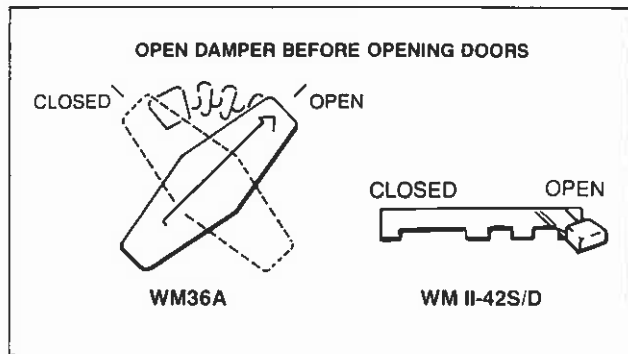

Fig. 12. WM series damper control.
**WM Damper.** The WM series fireplace flue damper is 'opened' and 'closed' by a knob located in the top outlet grille. (See Fig. 12.) The WM damper is adjustable and may be adjusted to a partially open position as long as glass doors are closed and smoke build-up does not occur in firebox. Most efficient operation is obtained in the least open position. **When refueling, fully open damper before opening glass doors.**